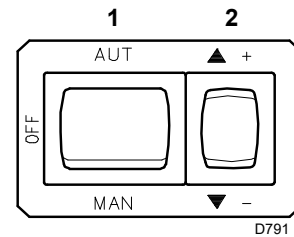
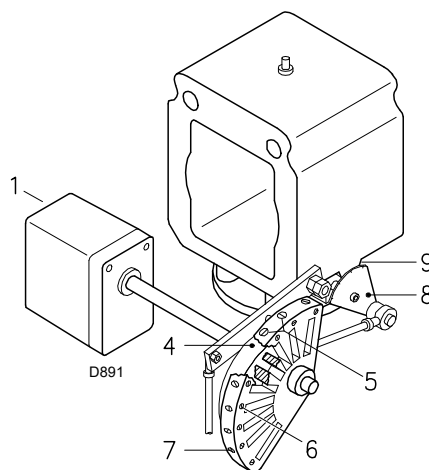
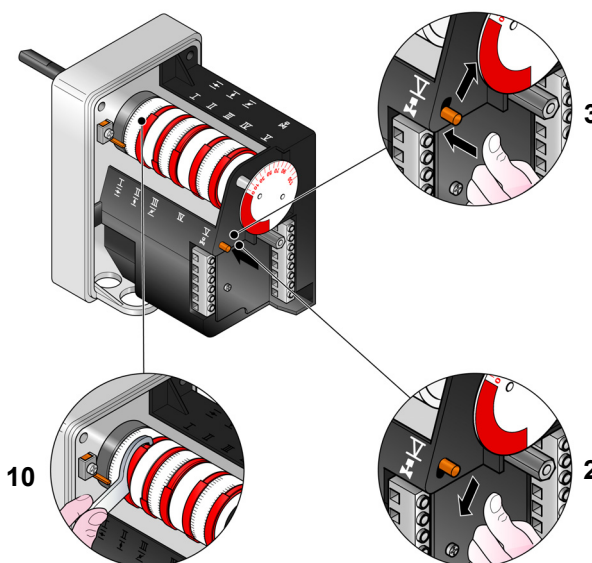
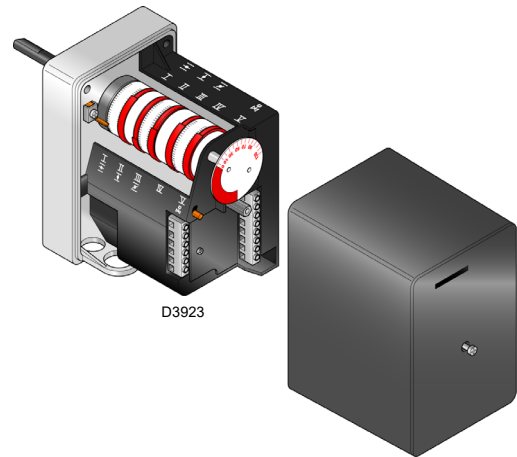

Fig. 35
Fig. 36
Fig. 37
Fig. 38
Close the thermostats/pressure switches and turn the switch in Fig. 35 to position "MAN".
The air is adjusted by changing the angle of cam III)(Fig. 38, on page 29) and by using the selector 2)(Fig. 35, on page 26).
To adjust the cam of the servomotor, see Fig. 37.
Now press the "increase output" button 2)(Fig. 35, on page 26), and keep it pressed until the servomotor has opened the air damper and the gas butterfly valve.
The air is adjusted by varying the angle of cam I) (Fig. 38, on page 29) and by using the selector 2)(Fig. 35, on page 26).
Key (Fig. 36)
MIN output must be selected within the firing rate range indicated on Fig. 2, on page 9. Press button 2)(Fig. 35, on page 26) "Output decrease" and keep it pressed until the servomotor reaches (Fig. 37) the factory adjustment.
Progressively adjust the end profile of the mechanical cam 4) Fig. 36, on page 27, using the screws 5).
Bring the output to 800 kW using the screws 5) of the mechanical cam (Fig. 38, on page 29) and check the emissions.
The regulation of the air is carried out using the angle of the cam III) of the servomotor (Fig. 38, on page 29) and by using the selector 2)(Fig. 35, on page 26).
To adjust the cam of the servomotor, see Fig. 37).
To adjust cam III, see Fig. 37.
The passage from one position to the next one is obtained by pressing the button 2) on the symbol (+) or (-) (Fig. 35, on page 26). Press button 2)(Fig. 35, on page 26) "Output increase" briefly so that the servomotor rotates by about 20°, see servomotor graduated index Fig. 37 and air damper graduated index 5) (Fig. 36 on page 27).
Screw or unscrew the screw 5) of the mechanical cam (Fig. 36, on page 27) to increase or decrease the gas output so as to adjust it to the corresponding air output, to obtain optimal combustion.
Switch off the burner using switch 1)(Fig. 35), OFF position, release the mechanical cam I)(Fig. 38) to separate the gears of the servomotor, pressing and moving downwards button 3)(Fig. 37), then manually rotate the mechanical cam I)(Fig. 37) backwards and forwards a few times to check that the movement is smooth and without any hindrance.
It is recommended that the mechanical cam 5)(Fig. 36 on page 27) be bound again to the servomotor by shifting button 3)(Fig. 37) upwards.
- 6s:** Servomotor start-up: turn to the right by 130°, i.e. until the contact intervenes on cam I (Fig. 38, on page 29). The air damper is positioned to MAX output.
- 80s:** The servomotor turns to the left to reach the angle set on cam III (Fig. 38, on page 29) for the MIN output.
- 109s:** The air damper and the gas butterfly valve reach the MIN output position (with cam III)(Fig. 38, on page 29) at 40°.